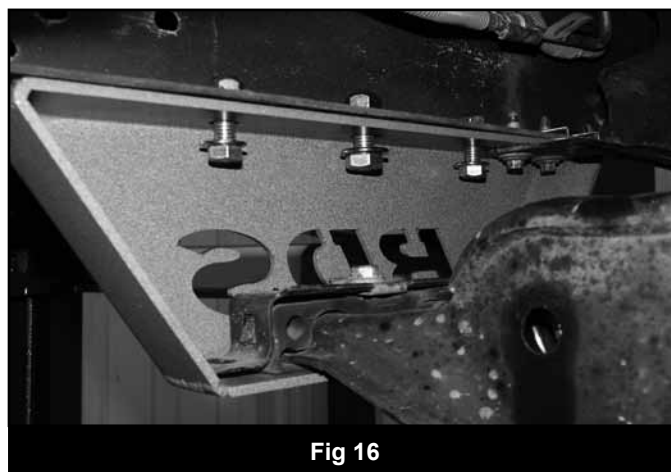

Fig 16
60. Loosely attach the OE crossmember to the inside of the driver's side drop bracket with the OE hardware (Fig 16).